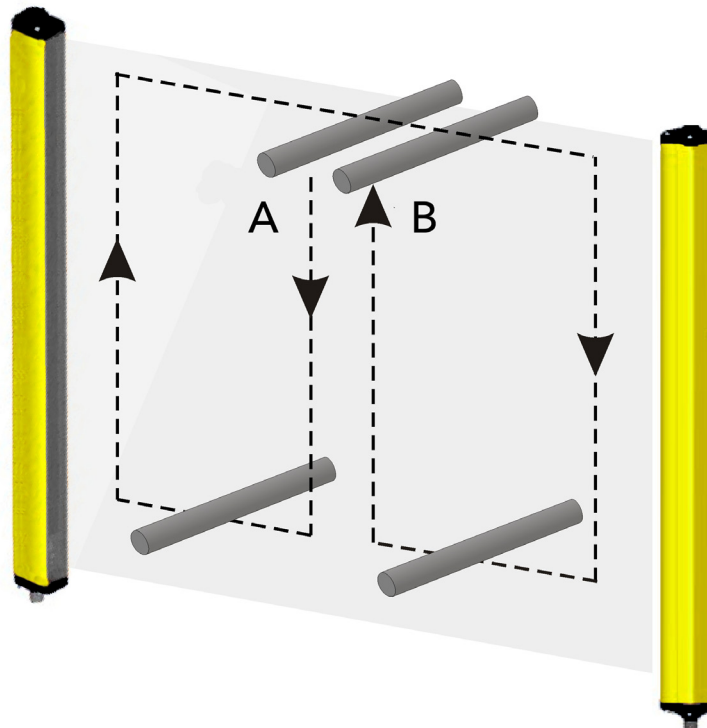

Figure 31: Test routine for testing protection field interruption with a test rod A = Start, B = End)
- ▶ The AOPD remains turned off (➡) as long as the protection field is interrupted in the inspection routine and using the corresponding test rod as shown in Figure 31 . Use the following test rods (see Accessories, „12.8 Test rod“ on page 55):
- ▶ Does the ESPE remain locked (▶ I) while the beams are being broken by an appropriate test rod over the entire safety field area (as per the diagram in Figure 31 on page 39)?